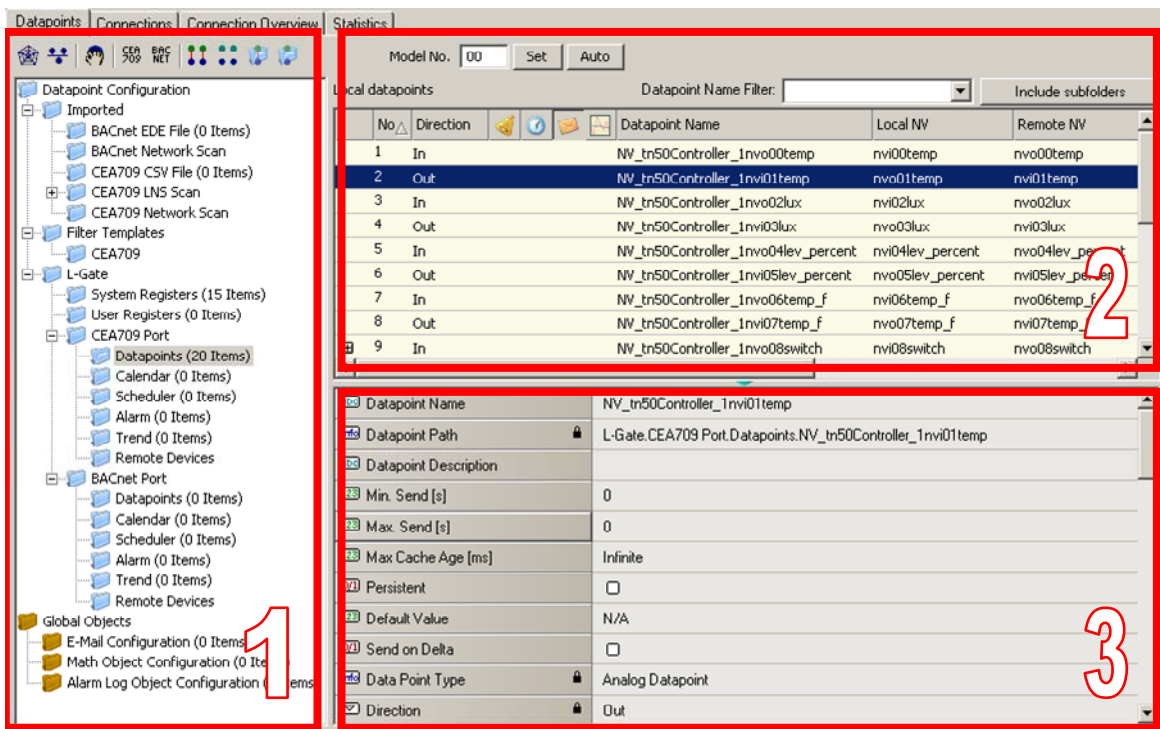

Figure 48: Datapoint Manager Dialog.
The configuration software uses a central concept to manage data points. The data point manager as shown in Figure 48 is used to select, create, edit and delete data points. The dialog is divided into three sections:
- The folder list (number 1 in Figure 48),
- The data point list (number 2 in Figure 48),
- And a property view (number 3 in Figure 48).